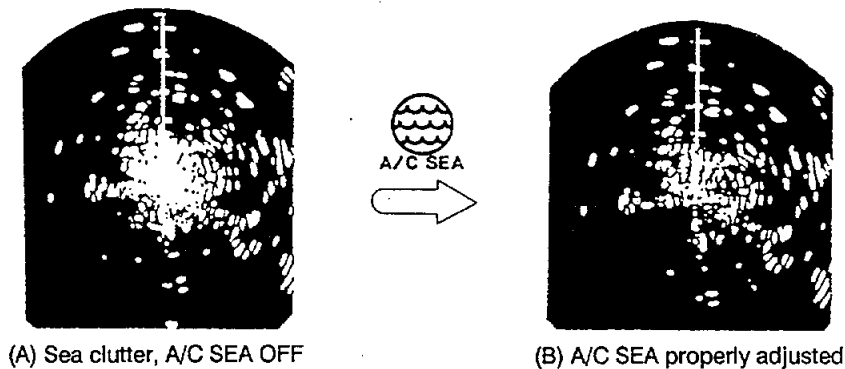

Figure 2-6 Adjusting the A/C SEA Control
Echoes from waves can be troublesome, covering the central part of the display with random signals known as "sea clutter." The higher the waves, and the lower the scanner above the water, the further the clutter will extend. Sea clutter appears on the screen as a many small echoes which might affect radar performance (see Figure 2-6 (A)). The **A/C SEA** control reduces the amplification of echoes at short ranges (where clutter is the greatest) and to progressively increase amplification as the range increases, so amplification will be normal at those ranges where there is no sea clutter. The control is effective up to about 4 miles.
If the control is not sufficiently advanced, other targets will be hidden in the clutter, while if it is set too high, sea clutter and targets will both disappear from the screen. In most cases turn the control clockwise until clutter has disappeared to leeward, but a little is still visible windward. Figure 2-6 illustrates how to adjust the control.